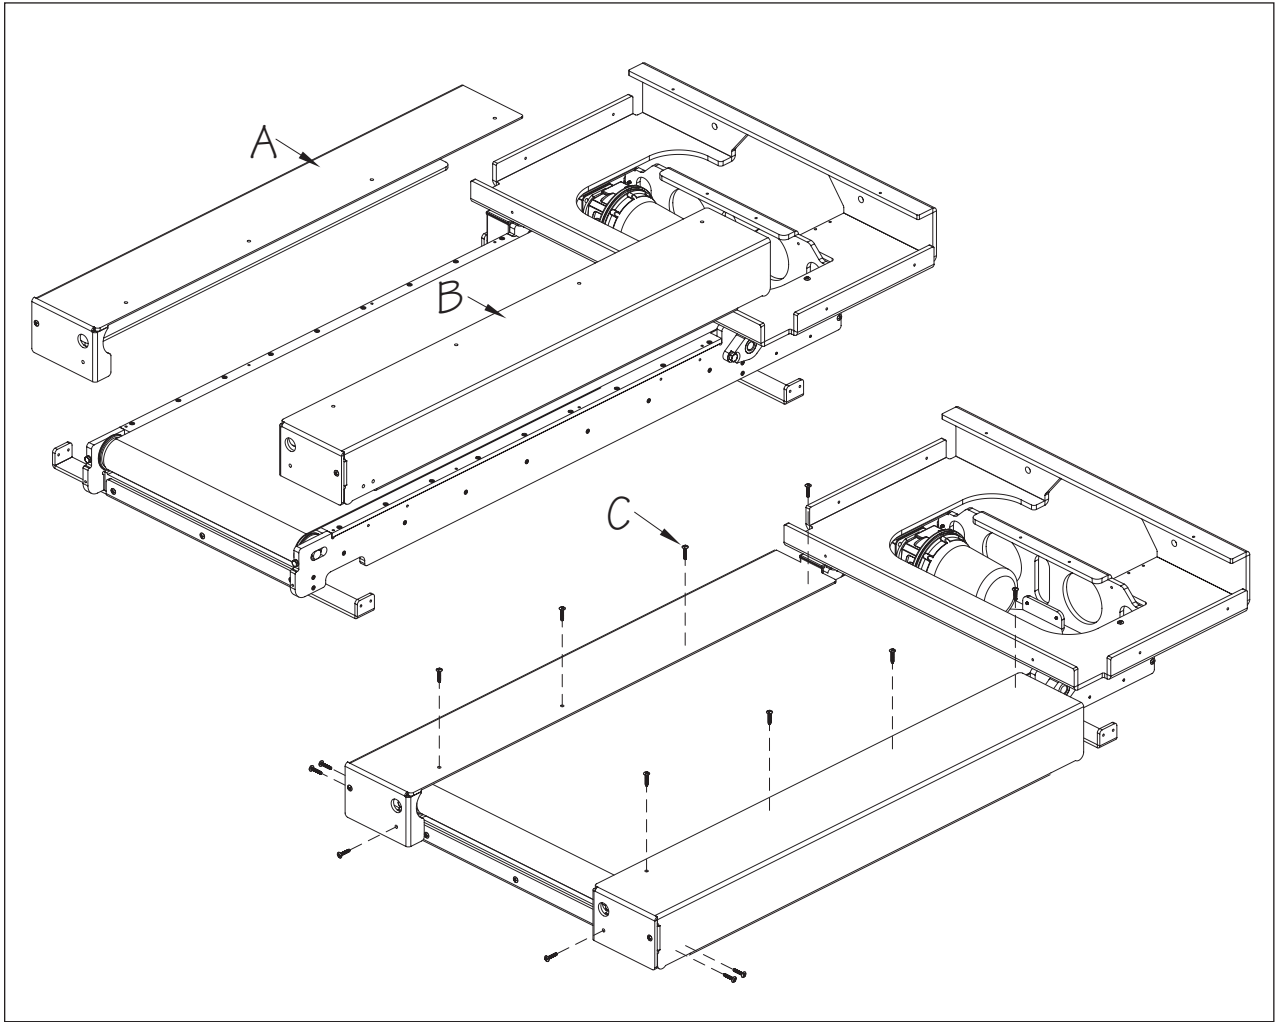

Fig. 6
4. Attach the Side Decks (A) and (B) using the 1" (25mm) Phillips Truss Head Screws (C) (Fig. 6).